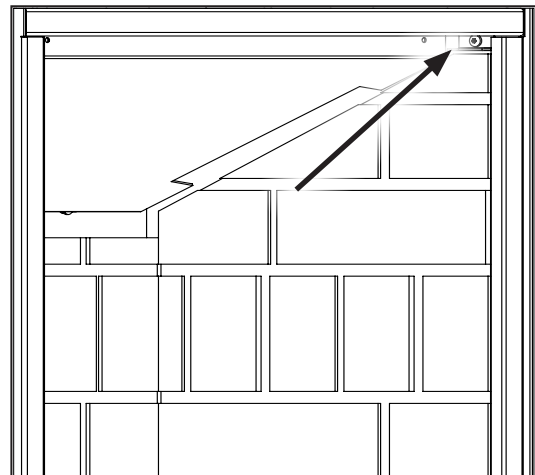

Figure 64. Top Panel Retainers.
3. Next, remove the top brick panel retainers on each side as shown in Figure 64 using a T20 screwdriver.